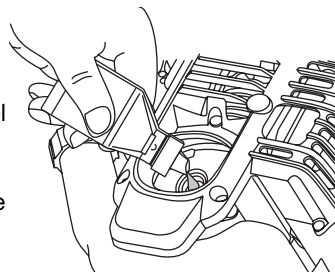

Fig. 11
4. Pour the entire bottle of oil into the oil fill hole (Fig. 11).